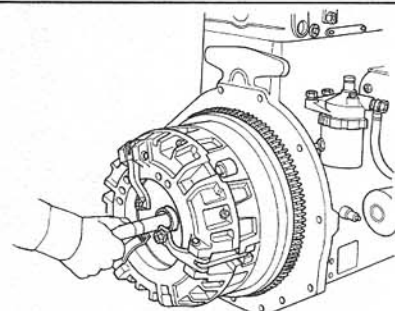

Figure 4 — Installation of 1900 Dual Clutch
Insert the 1582 Arbor in the clutch assembly from the release lever side. See Figure 4. Put the drive pressure plate on the 1582 Arbor. Lift this up to the flywheel. Position it so that the 1582 Arbor can be inserted into the crankshaft pilot hole. Insert and start the (6) mounting bolts.